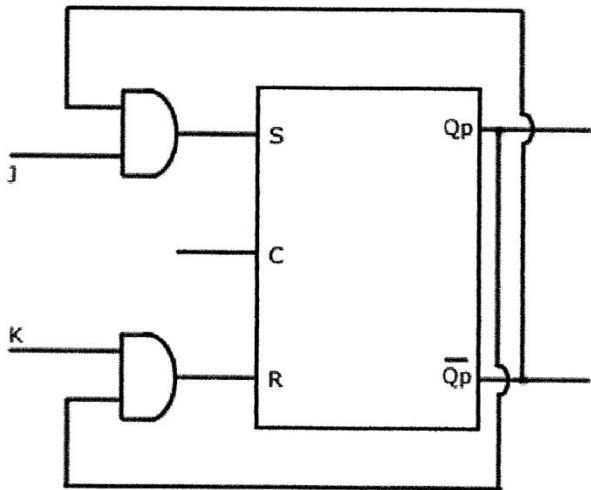
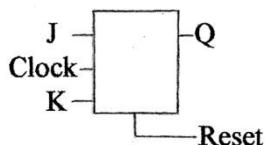

Figure 36. S R to J K flip-flop
Figure 37. J K final diagram. The progression from a Nand gate flip-flop to a JK flip-flop has now been shown.
24. The two "AND" gates that are outside of the flip-flop on figure 36 are now inside on figure 37.